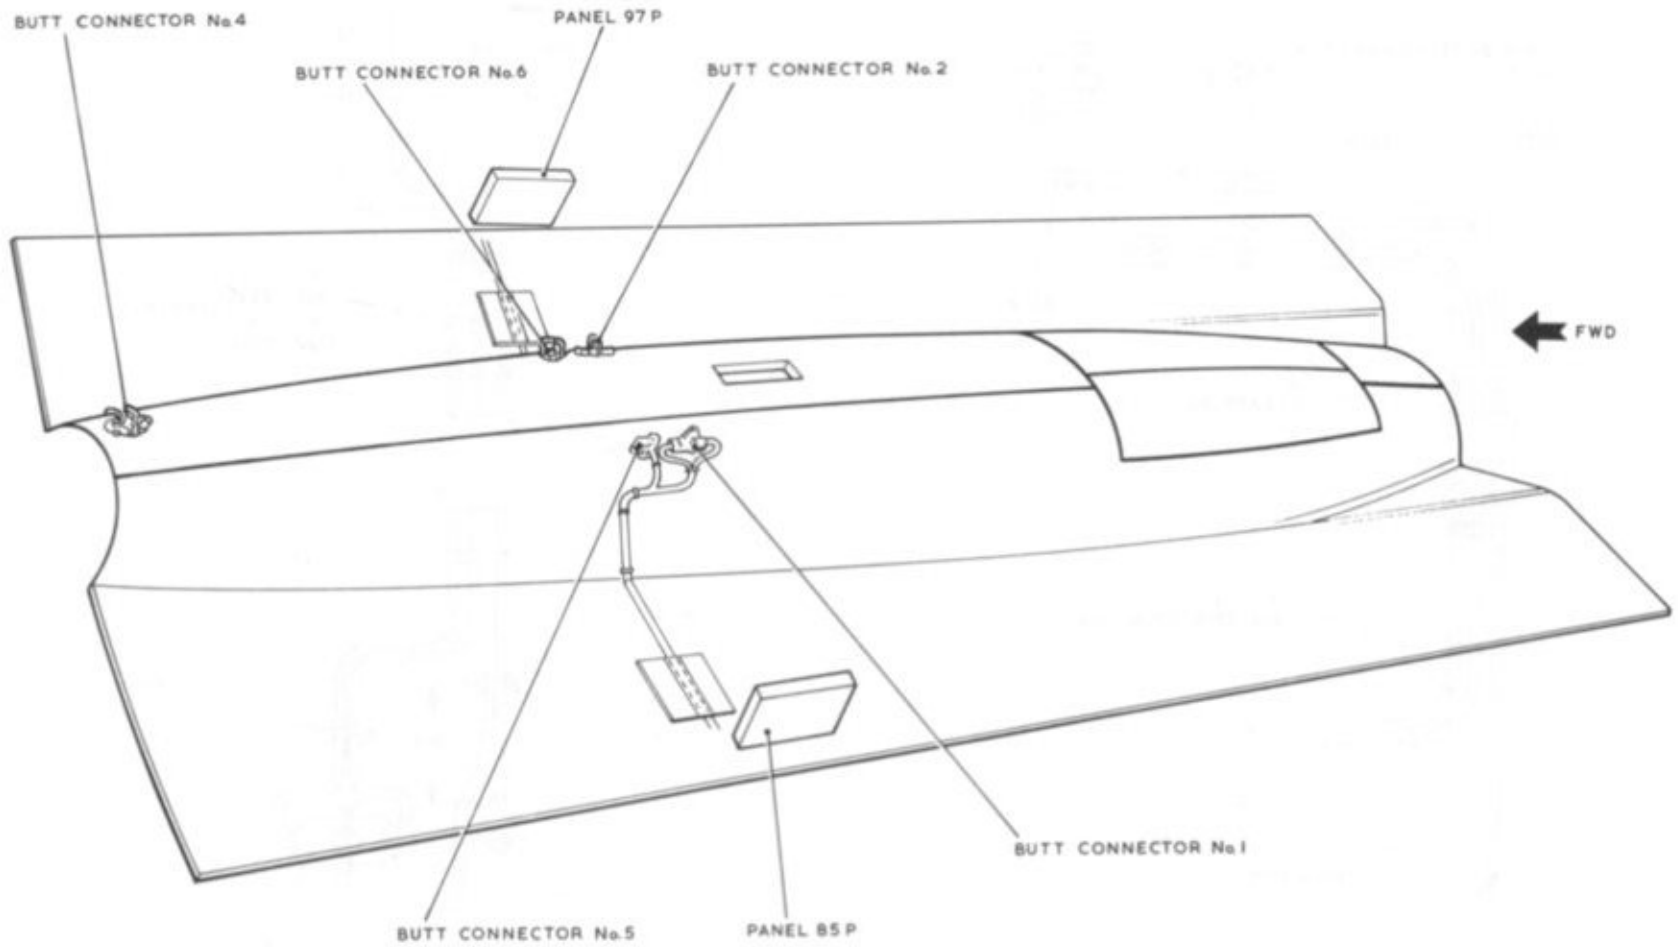

Fig.1 View on inside face of fairing doors
- (1) Locate No.1 butt connector (fig.1)
- (2) Remove and discard the split pin securing the lanyard to the release spindle of the butt connector.
- (3) Remove the two bolts securing the cradle assembly to the fairing door structure.
- (4) Remove the cradle assembly Type D11295 and retain with the fixing bolts.
- (5) Disconnect the rubber seal from the butt connector and withdraw the butt connector.
- (6) On the fairing doors, unfasten the strap clips and remove the cable cover in order to release the butt connector assembly.
- (7) Disconnect the cable assemblies at plugs 955, 847, 848, 957 and 670 on junction box 85P.
- (1) Locate No.2 butt connector (fig.1)
- (2) Repeat para.7(2) to 7(6).
- (3) Disconnect the cable assemblies at plugs 846, 956, 849 and 671 on junction box 85P.
- (4) Remove the cable assemblies from the cable loom running on the aft face of bomb arch 151.919A to the butt connector position by releasing eighteen cable clips.
- (1) Locate No.4 butt connector (fig.1)
- (3) Locate the plug and socket break on the front spar, starboard side.
- (4) Disconnect the front spar plug breaks Nos. 981, 983, 984, 980, 982, 985 and 986.
- (5) Disconnect the cable, Ref.3093, from the earth point at the front spar.
- (6) Release eight cable clips on the fairing doors and remove the cable assembly.
- (1) Locate No.5 butt connector (fig.1)
- (2) Repeat para.7(2) to 7(6). Note cradle assembly Type D11296.
- (3) Disconnect plug 854 on junction box 97P.
- (4) Remove the cable assembly from the cable loom running on the aft face of bomb arch 151.919A to the butt connector position on the fairing doors by releasing eighteen cable clips.
- (1) Locate No.6 butt connector (fig.1)
- (2) Repeat para.7(2) to 7(6). Note cradle, Type D11296.